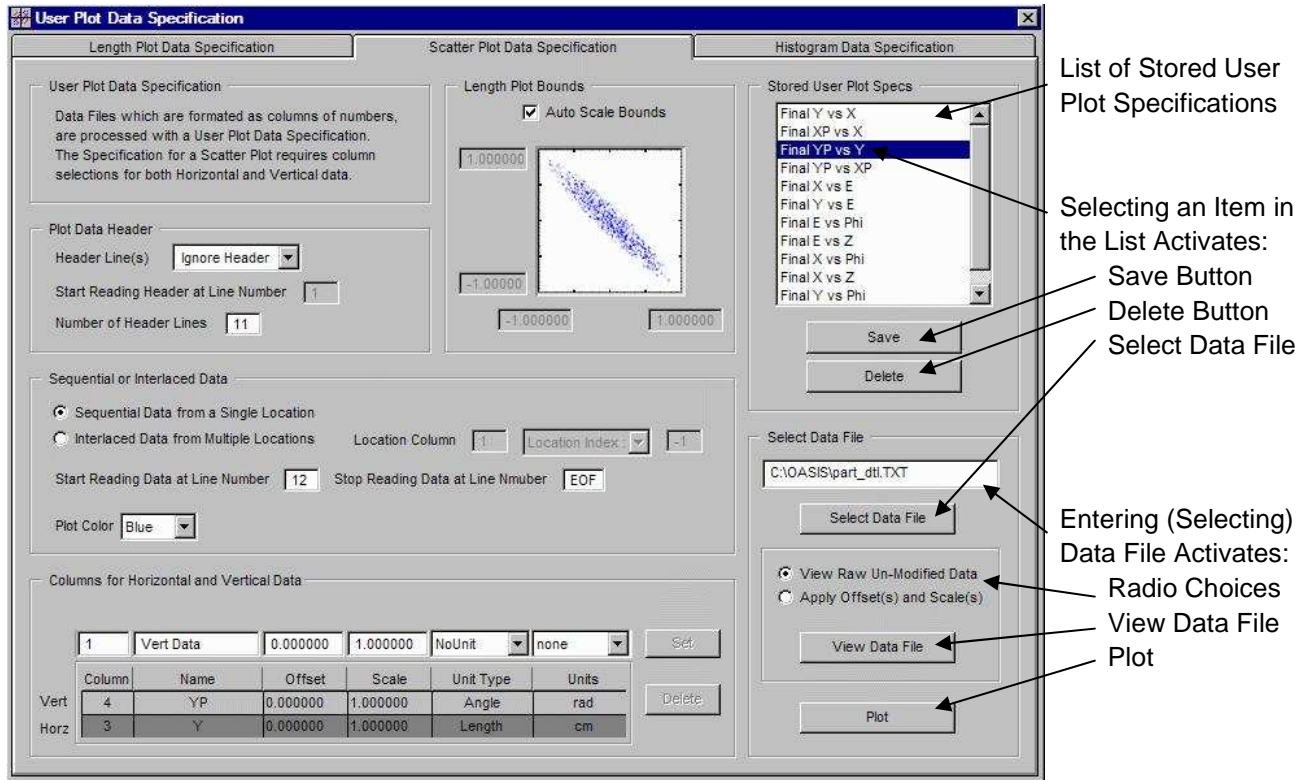
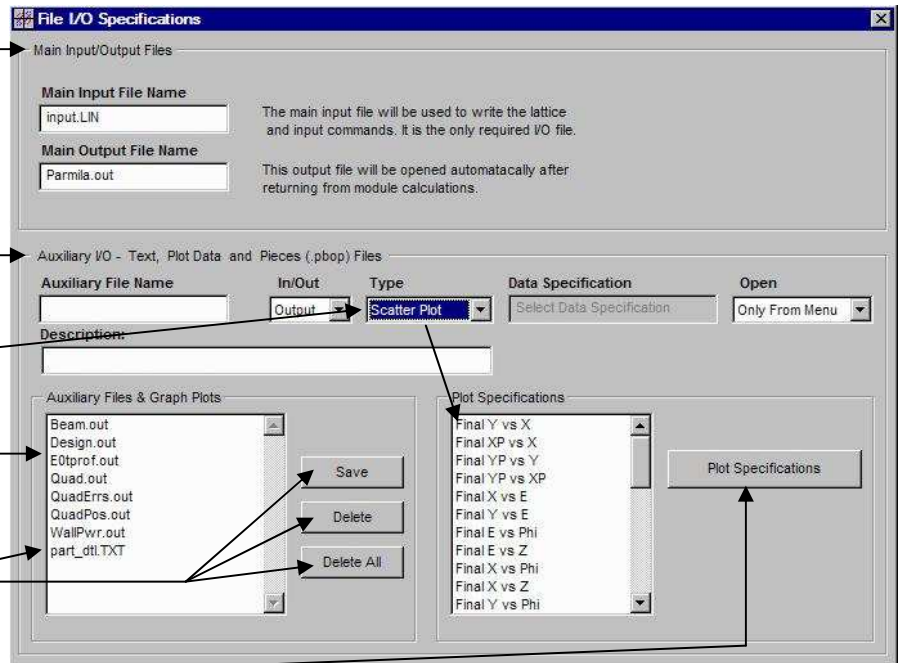

Figure 107. User Plot Data Specification window illustrating a list of stored plot specifications for the PARMILA-2 OModule.
Figure 109. File I/O Specification window for the PARMILA-2 OModule with Stored Plot Data Specs.
The Save button in the upper right portion of the User Plot Data Specification is used to record and store the plot specification. Selecting the Save button will open a dialog window for assigning a name to the specification. Entering a name and selecting OK will store the data as a persistent object of the PBO Lab / OASIS software. The name will appear in the Stored User Plot Specs list. The Stored User Plot Specs pane provides a list of all plot specifications stored with the OASIS Module Specification Document. Figure 107 shows an example of the User Plot Data Specification window with a series of plot specifications stored for the PARMILA-2 OModule.
The Stored User Plot Specs list in Figure 107 shows a number of stored plot specifications for scatter plots. The selected item in the list corresponds to the plot y' vs y specification discussed in this manual. When an item in the list is selected, the features in the lower right pane of the User Plot Data Specification window may be used to apply that specification to a data file. To examine the data file, enter the file name in the Select Data File field, or use the Select Data File button to access a file opening dialog. When a file name appears in the Select Data File field, the other items in the lower right part of the User Plot Data Specification window become active. Selecting the button View Data File will open a window similar to that illustrated in Figure 104 which displays the content of the selected file.
Step 1 of the process for specifying of plot windows for an OModule developed the plot data specifications. Step 2 involves linking those data specifications to OModule data files, and assigning other attributes for the handling of the data files. The Module I/O File Specification item on the OASIS Commands menu is used to begin Step 2. Selecting this item opens a File I/O Specification window similar to that shown previously in Figure 8. Figure 109 illustrates the File I/O Specification for the PARMILA-2 OModule when the Stored User Plot Specs shown in Figure 107 have been defined.
Stored User Plot Specs are linked to data files using the lower part of the File I/O Specification window - the region that handles Auxiliary I/O files. In Figure 109 the auxiliary file Type selection has been set to Scatter Plot. This selection populates the Stored User Plot Specs with the same entries completed for Scatter Plot Data Specifications (Figure 107).
Clicking on an item in the Stored Plot Data Specs list will load the item name into the Data Specification field immediately to the right of the Type selection popup menu, which is set to Scatter Plot in Figure 109. The name of the data file to be linked to this plot data specification is entered into the Auxiliary File Name field. This name should be *typed* into the Auxiliary File Name field, even if the same name appears in the Auxiliary File & Graph Plot list. (Selecting an item from the list will populate the associated fields with previously entered data.)